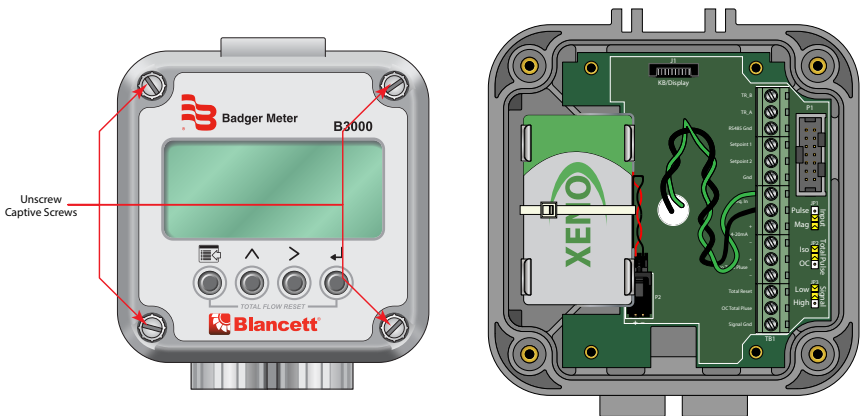
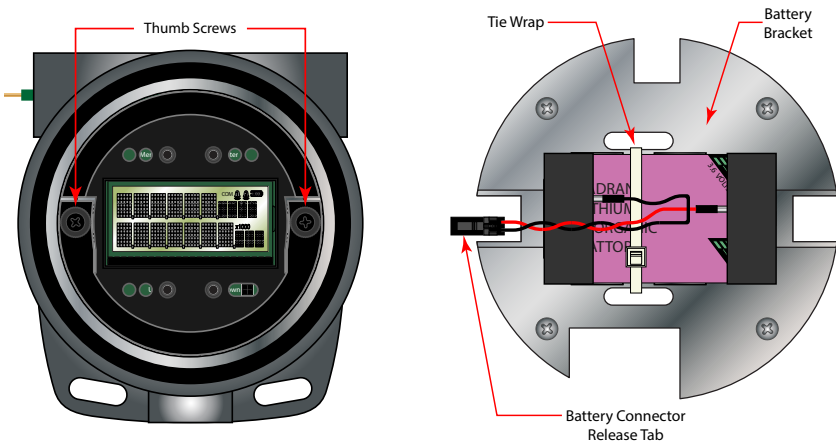

Figure 30: NEMA 4X battery replacement
Figure 31: Ex-proof battery replacement
**NOTE:** The battery is held in place with a wire-tie that will need to be cut and replaced (see *Figure 30*). The approval on the product requires the wire tie.
**REMOVE (DE-ENERGIZE) ANY EXTERNAL POWER FROM THE UNIT BEFORE REMOVING THE SCREW COVER FROM THE ENCLOSURE. FAILURE TO DO SO CAN BE DANGEROUS. (SEE FIGURE 30 ON PAGE 41 AND FIGURE 31.)**